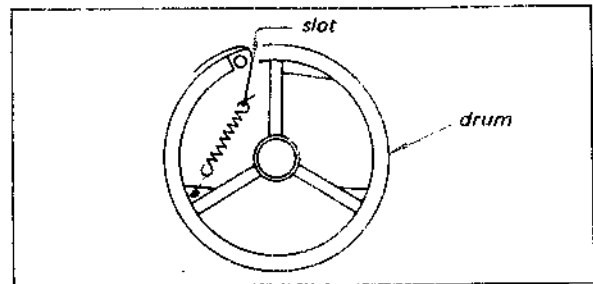

Fig. 2-7. Coil spring installation
1. Hook the spring to one hole of the drive drum as shown in Fig. 2-7, and then squeeze it.